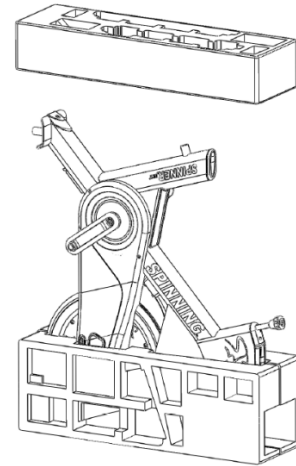

Fig. 7
7. Remove the foam packaging from the rear section of the Spinner frame (Fig. 7).